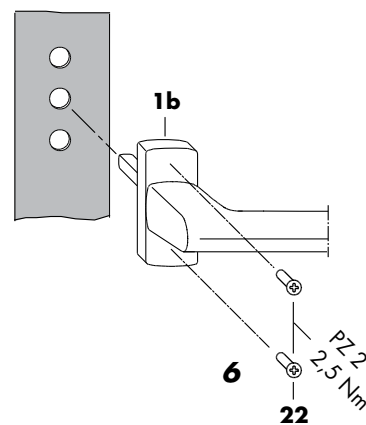

Figure 4
6. Screw on the window handle (pos. **1b**) with countersunk screws M5 x 35 (pos. **22**) (PZ 2, torque 2.5 ± 0.25 Nm) (figure 4).